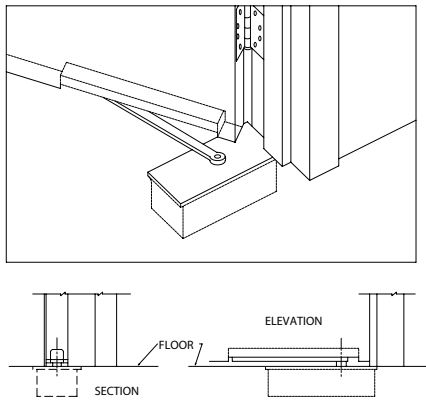

**FIGURE 13**
1. Overhead Closers, Figure 13, are hydraulic devices containing a piston, fluid chambers, and a spring. When the door is open the piston is pulled back, compressing the spring and moving the fluid from one side of the piston to the other. With the release of the door a reverse action takes place, closing the door. Closing speed is controlled by an adjustment valve or valves. Overhead closers may be concealed or surface mounted.